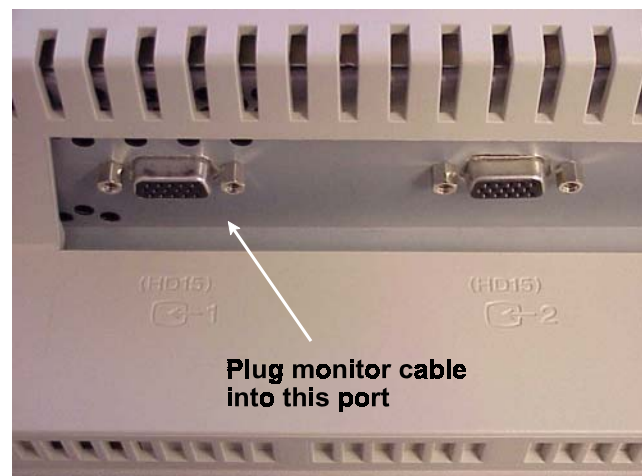

Figure 4
6. Locate the monitor video cable. At the back of the monitor, locate the port labeled HD-15 (1). Plug either end of the monitor video cable into port HD-15 (1) (figure 4).